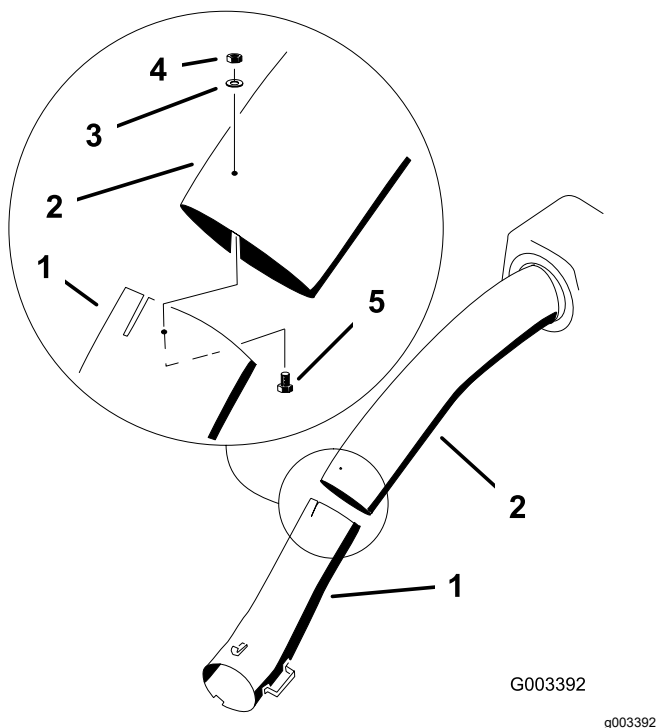

Figure 27
11. Join the upper and lower tubes with 3 bolts (#10 x 3/4 inches), 3 flat washers (7/32 inch), and 3 locknuts (#10) as shown in Figure 27.